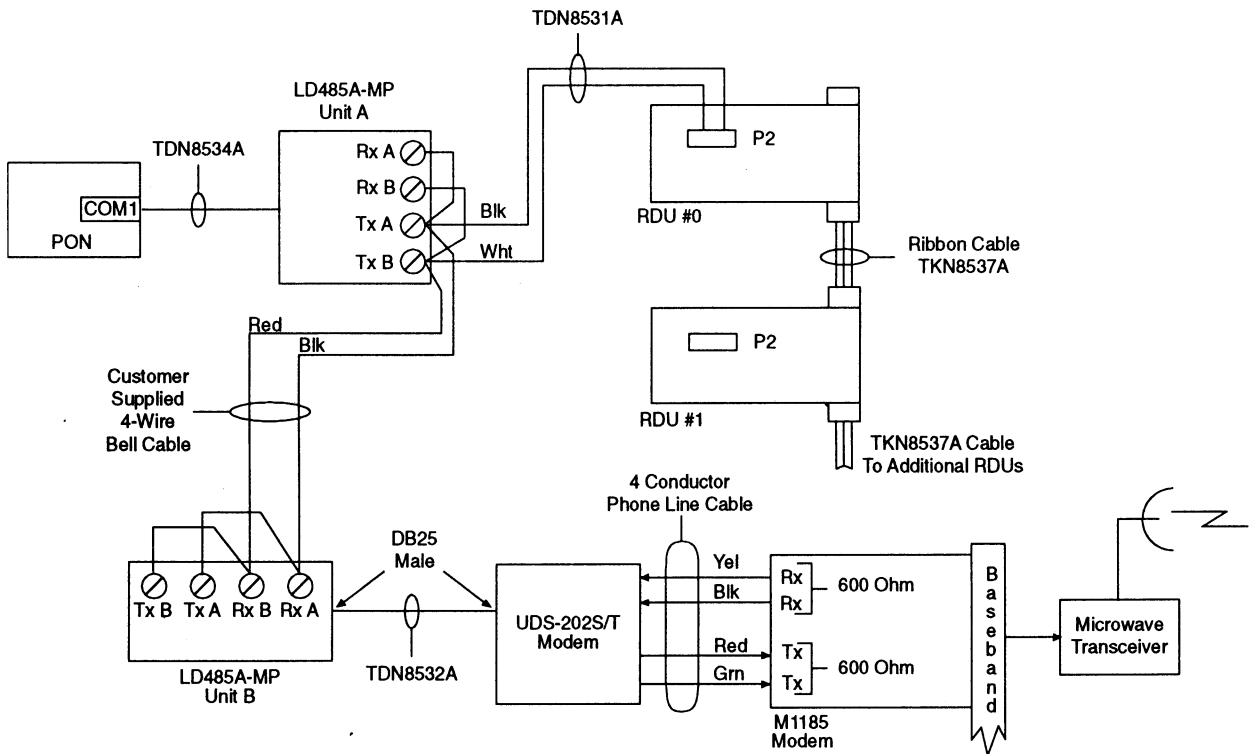

Figure 4. Dual Path Prime Site Cabling Detail
Step 1. Refer to Figure 4 for the following steps.
- Step 8. Connect one end to the 25-pin male connector on Unit B. Figure 4 illustrates these connections.